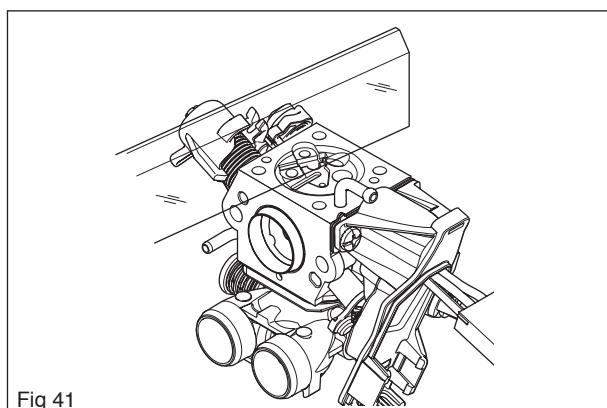

Fig 41
- Check using a ruler or the like that the lever is level with the assembly plane on the cover. If necessary, the lever arm can be bent, see figure 41.